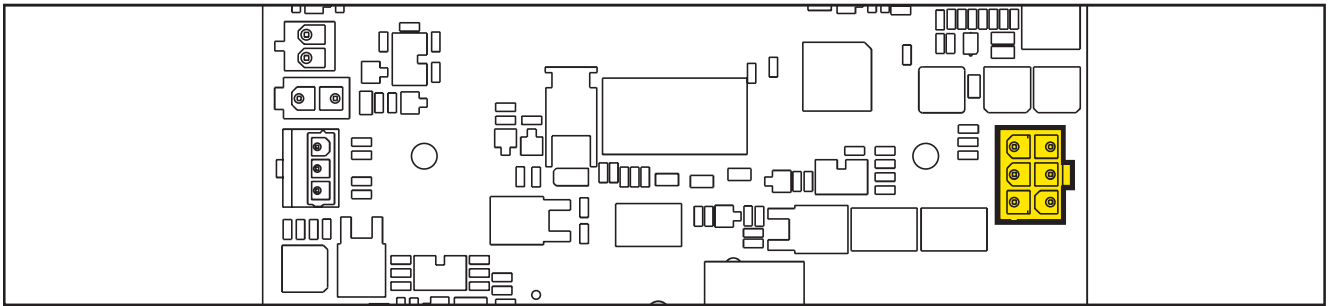

Figure 29:
**(Figure 29) J1: MOLEX MINIFIT type, 6-ways vertical**